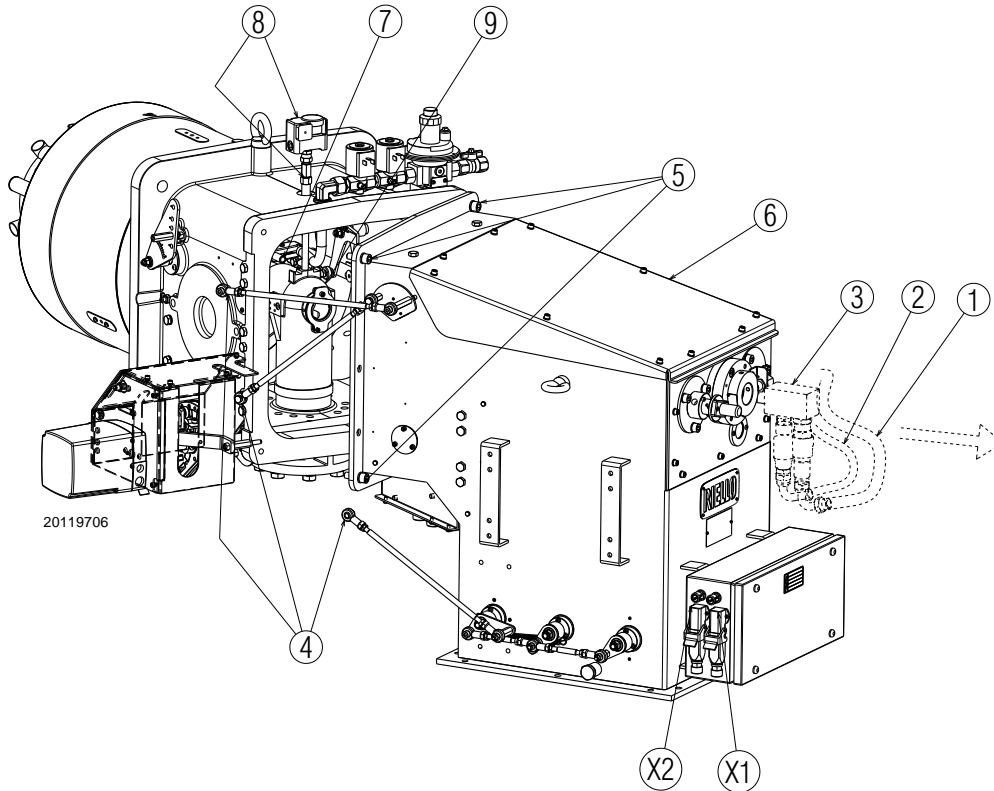

Fig. 16
- Disconnect oil pipes 1) and 2)(Fig. 16) and remove the nozzle 3);